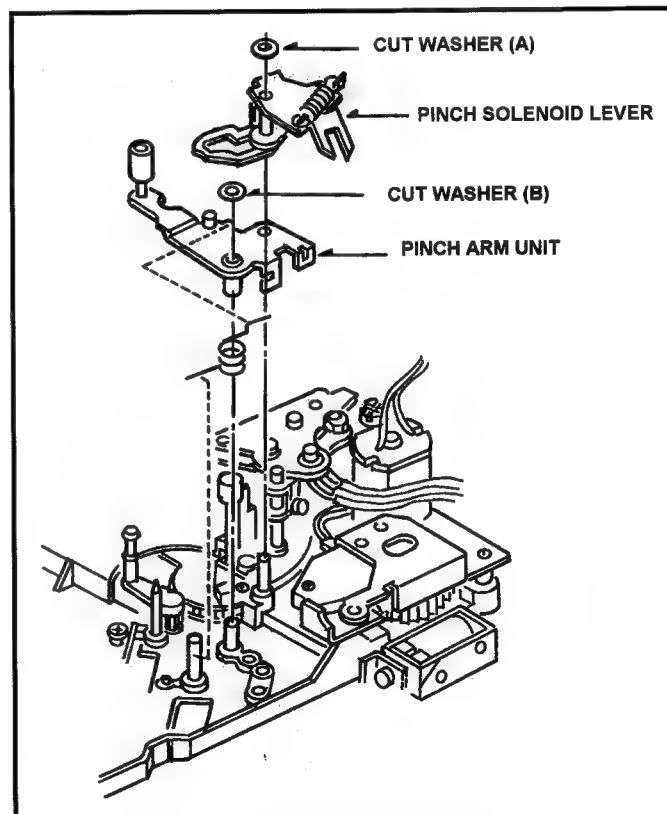

Fig.6-8-1 Removal of Pinch Arm Unit
5. Remove the Pinch Solenoid Unit (Refer to item 6-9, then hang off the Pinch Solenoid Lever as shown in Figure 6-8-1.
6. Remove the cut washer (A) and remove the Pinch Solenoid Lever as shown in Figure 6-8-1.
7. Remove the cut washer (B) and remove the Pinch Arm Unit as shown in Figure 6-8-1.